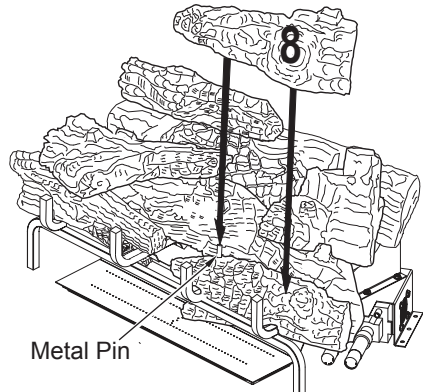

Figure 51 - Installing Log # 8
- Place the front right mid log (#8) on top of the front right log (#4) as shown in Figure 51. Match the round metal pin on the top of the front right log (#4) with the round hole on the bottom of the front right mid log (#8).